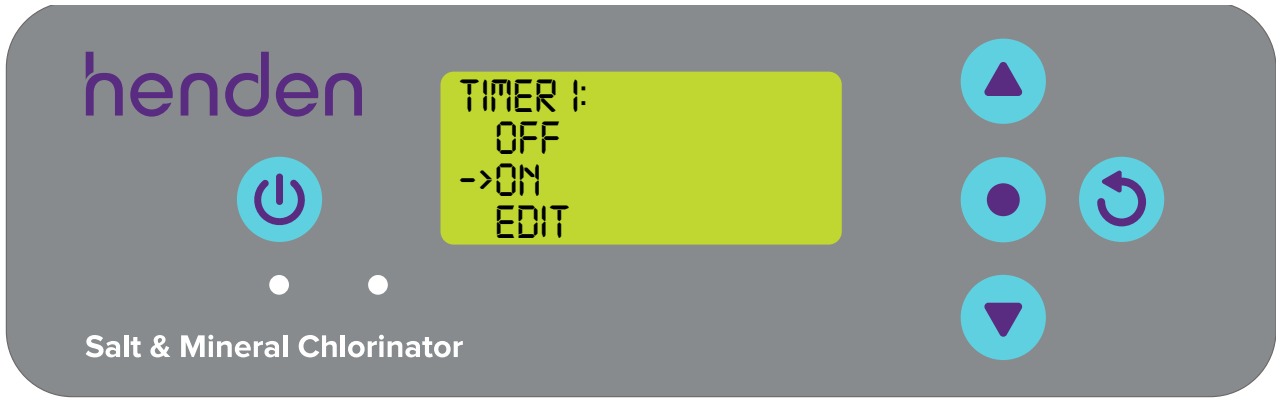

Figure 9.21
- Use the  **menu up/down** buttons to scroll down to ON (refer Figure 9.21).